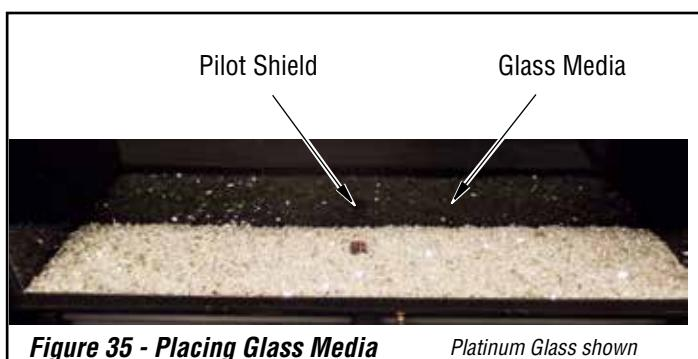

Figure 35 - Placing Glass Media
1. Place glass media in a layer evenly make sure only one layer of media on top of the burner and remaining media could be spread evenly across the remaining pan media. Ensure not to place media on top of the pilot shield, it is okay to place media around the shield (*see Figure 35*).